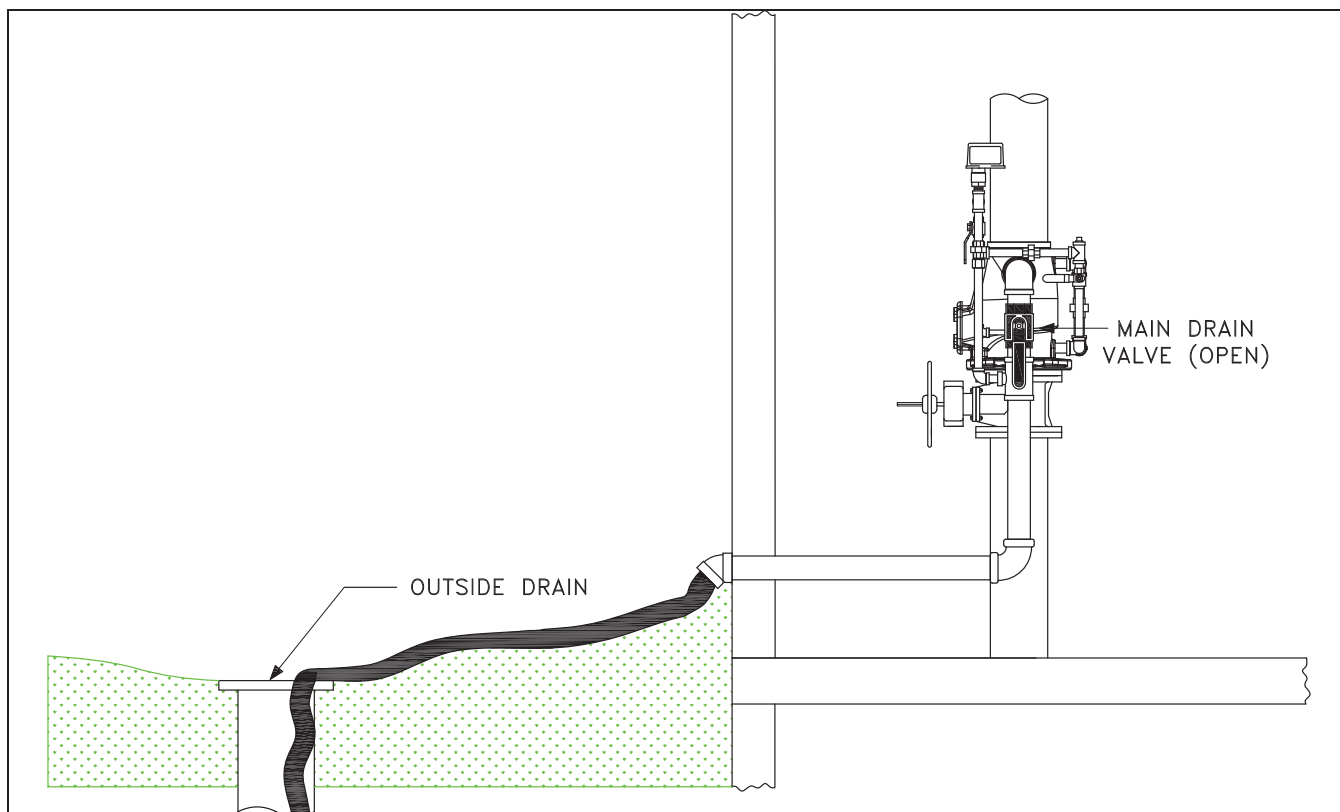

Figure 41
5. Fully OPEN the main drain. (For systems with a mechanical alarm, the alarm (Figure 41) should sound.)